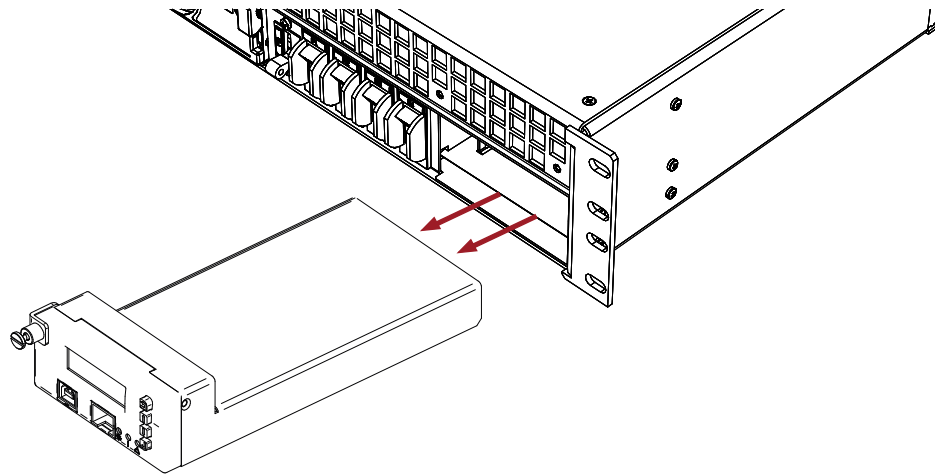

Figure 7-2 Removing the Controller
2. If removing a controller out of the shelf as shown in Figure 7-2.